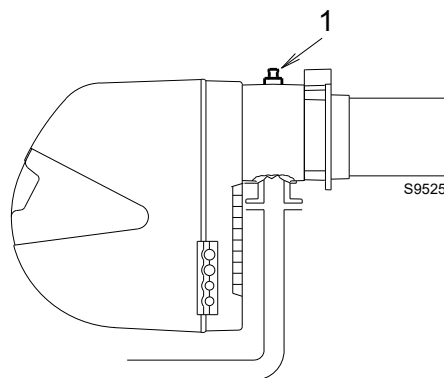

Fig. 24
Gas pressure measured at test point 1)(Fig. 24), with:
- subtract the combustion chamber pressure from the gas pressure measured at test point 1)(Fig. 24).
Gas pressure at test point 1)(Fig. 24) = 12.1 mbar
To calculate the required gas pressure at test point 1)(Fig. 24), set the maximum modulating output required from the burner operation:
- read, on the right (column 1), the pressure at the test point 1) (Fig. 24).
pressure required at test point 1)(Fig. 24).